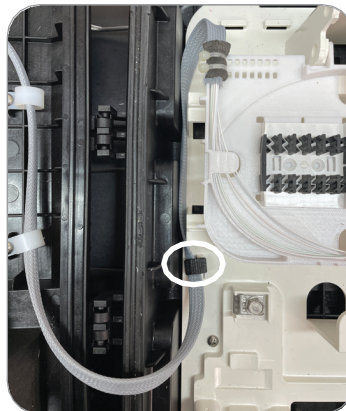

Figure 91
3. Using the fiber management clips, route the pigtails over to the splice tray. (Figure 91)
4. Use Velcro to secure the pigtails to the lance on the backplate. (Figure 91)